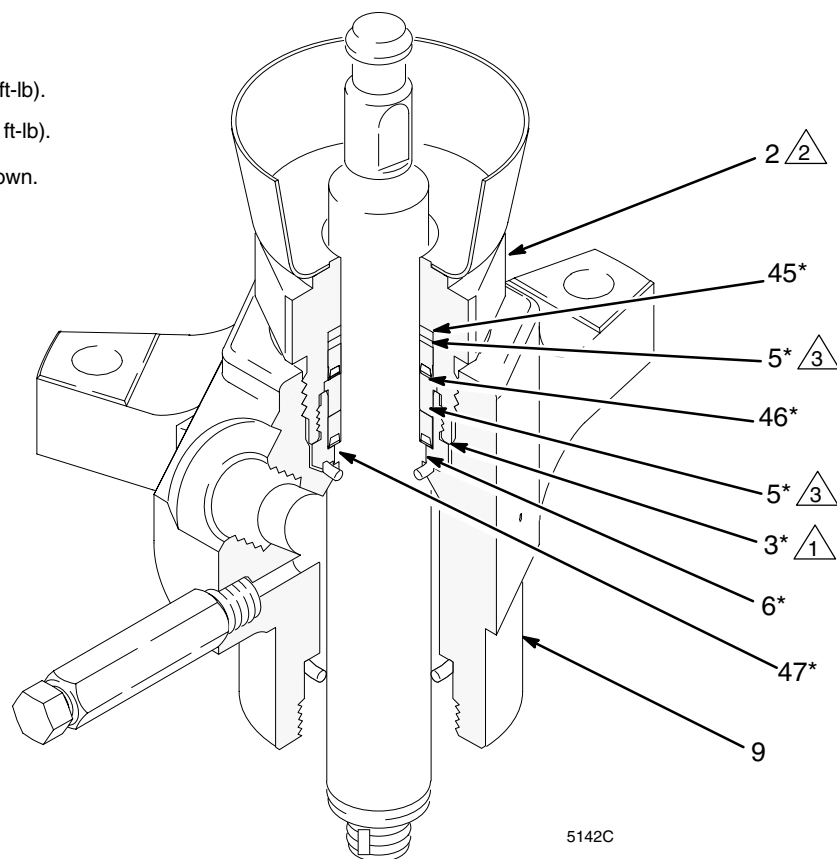

Fig. 3
2. See Fig. 3. Unscrew the packing nut (2) using a pipe wrench. Remove the o-ring (6) and washer (47) from the bottom of the packing housing (3) or from the outlet housing (9).
3. Place the flats of the packing nut (2) in a vise. Unscrew the packing housing (3) and discard it and the packings. Remove the washer (46), seal (5), and backup washer (45) from the packing nut.
4. The throat repair kit is preassembled. Screw the kit into the packing nut (2), making sure that the backup washer (45*), seal (5*), and washer (46*) are properly positioned on top of the packing housing (3*), with the lips of the seal facing down. Torque the packing housing (3*) to 305 ± 14 N.m (225 ± 10 ft-lb). See Fig. 3.
8. Screw the packing nut (2) and packing housing (3*) into the outlet housing (9). Torque to 203 ± 41 N.m (150 ± 30 ft-lb).
- △2 Throat packings (see Fig. 3).